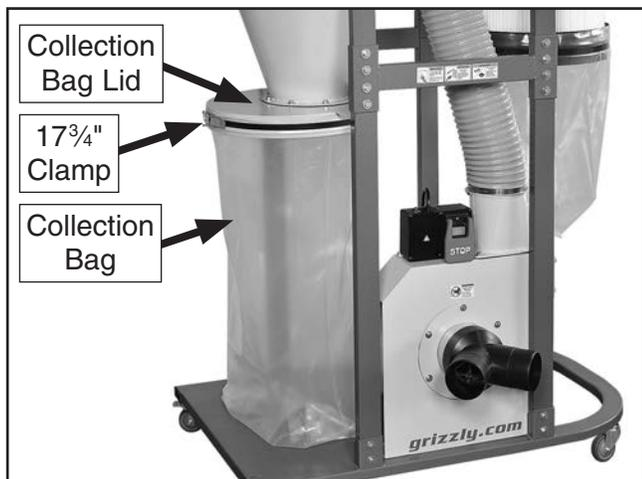

Figure 28. Collection bag attached to collection bag lid.
24. Place 17³/₄" x 35¹/₂" collection bag around collection bag lid and secure with 17³/₄" metal clamp (see **Figure 28**).